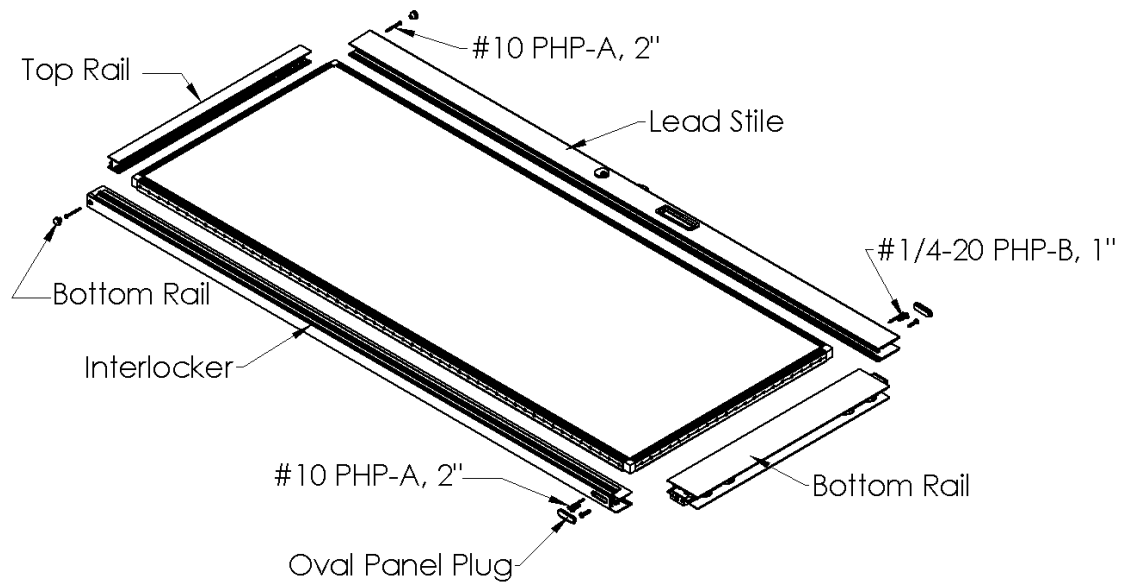

Figure 7:
- Secure the stiles to the rails with (4) #10 x 2" pan head screws (Figure 7). Add wax to the ends of all fasteners to reduce the drive torque required for installation.